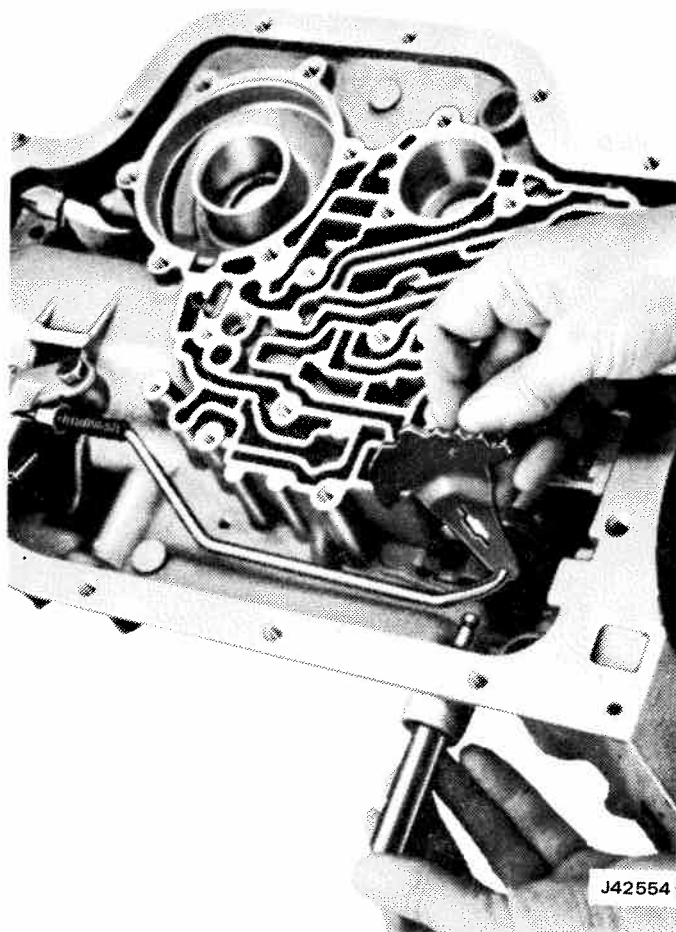

Fig. 7-124 Manual Shaft Installation
- (1) Install new O-ring on manual shaft.
- (2) If removed, insert actuator rod into manual detent lever from side opposite pin.
- (3) Install actuator rod plunger under parking bracket and over parking pawl, as shown in figure 7-124.
- (4) Insert manual shaft assembly through case and detent lever, and secure with jamnut and retaining pin.
- (5) Tighten nut to 15 to 20 foot-pounds. Index mark on pin should coincide with groove on shaft.